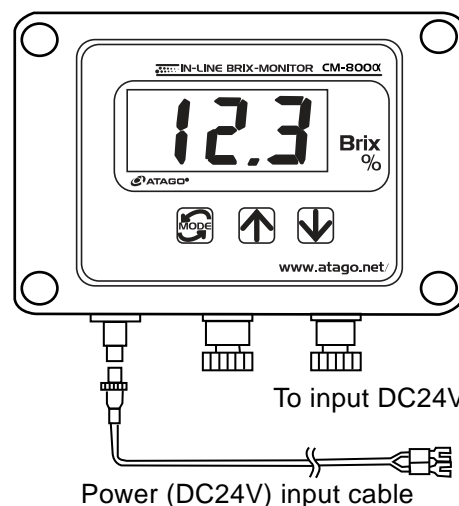

Fig. 7-1
- ② Connect the power (DC24V) input cable terminal to the power supply of DC24V as illustrated in Fig. 7-1.